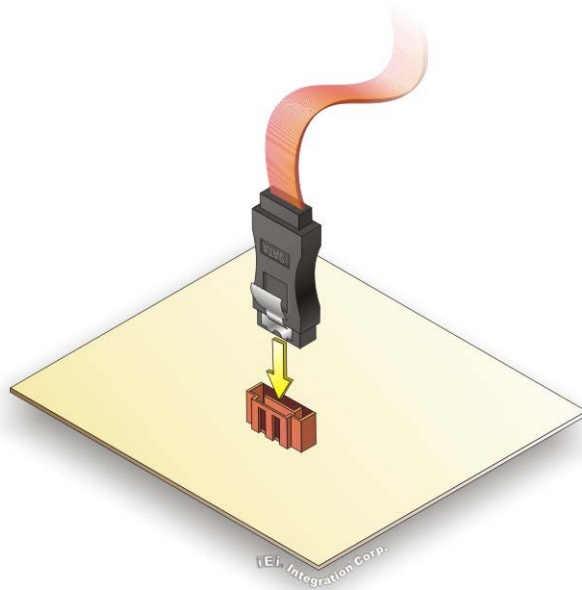

Figure 4-13: SATA Drive Cable Connection
Step 2: **Insert the cable connector.** Insert the cable connector into the on-board SATA drive connector until it clips into place. See **Figure 4-13**.